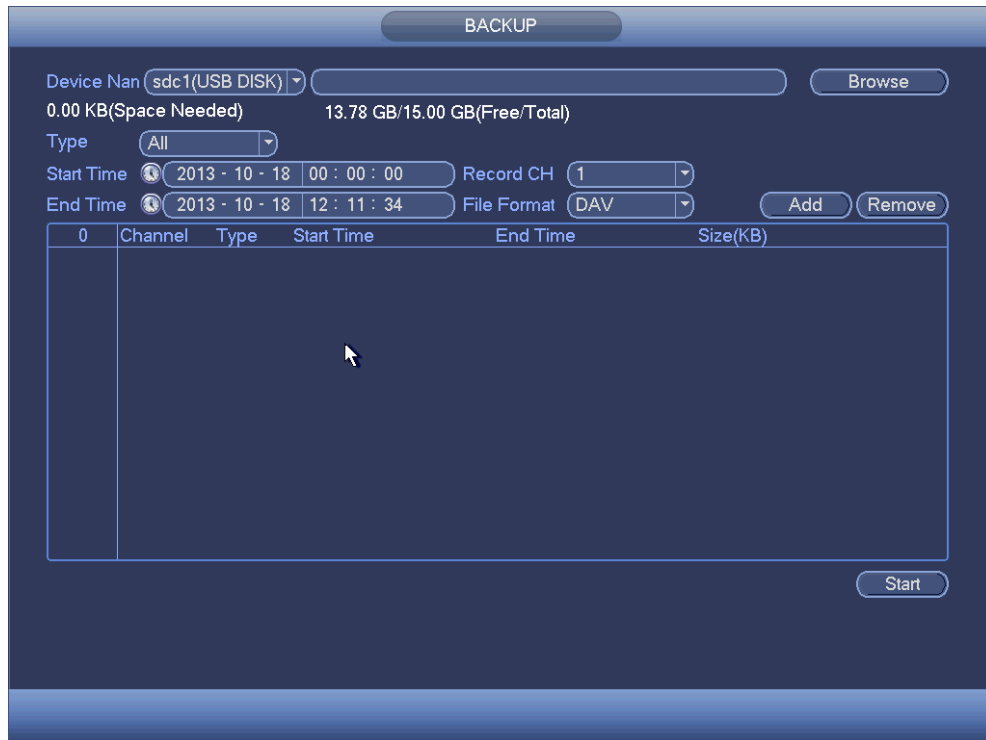

Figure 3-92
- From Main menu->Backup, you can go to the Backup interface. See Figure 3-92.